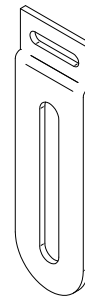

Figure 2: Short Vertical Offset
3. Due to the shallow depth of the front face, as compared to the MCS-Epic console box series, it is necessary to replace the standard Vertical Offsets with a set of shorter Vertical Offsets (1 set is included with the 13-in Low Ergo console box). The radio/radio head in the lowest position on the box will require the Short Vertical Offset. Follow instruction sheet INST-3 for assembly and installation instructions, substituting the short Faceplate Vertical Offsets (see **Figure 2**) with the Vertical Offsets that come with Gamber-Johnson Facplate Kits.
It is recommended that if using the MCS-MICPLT kit to place the finished assembly in the lowest position on the 13-in Low Ergo console box. By assembling the kit in this fashion you be able to avoid using the short Faceplate Vertical Offset (**Figure 2**).
ASSEMBLING MCS FACEPLATES TO CONTROL HEADS AND INSTALLING IN MCS CONSOLE BOXES (Refer to figures 2 & 3).
1. Install the faceplates on each control head as shown in figure 2. Adjust the faceplates so the mounting holes in the sides of the control head line up in the slots of the faceplate vertical offsets and so the desired amount of the control head will extend from the console. Make sure to allow enough room underneath for any connectors that may be required. Test the fit of each control head, the tallest heads may need to be installed near the higher end of the console.
3. Attach the MCS Console Box holddowns to the sides of the console box and over faceplates with (6) 10-32 x .38 Phillips head machine screws.